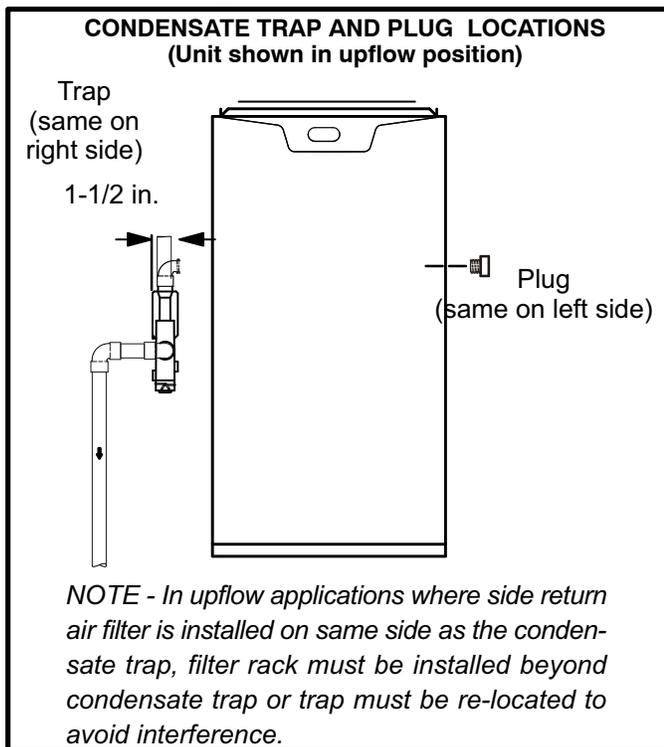
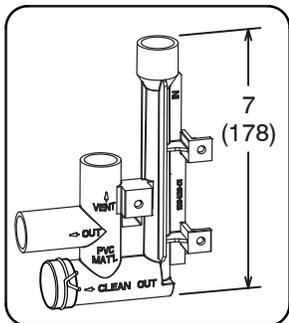

FIGURE 43
FIGURE 51
This unit is designed for either right- or left-side exit of condensate piping in upflow applications. In horizontal applications, the condensate trap must extend below the unit. An 8" service clearance is required for the condensate trap. Refer to figures 43 and 45 for condensate trap locations. Figures 51 (3/4" drain connection) and NO TAG (1/2" drain connection) show trap assembly using 1/2" PVC or 3/4" PVC.
- 2 - For furnaces with a 1/2" drain connection use a 3/8 allen wrench and remove plug (figure 43) from the cold end header box at the appropriate location on the side of the unit. Install field-provided 1/2 NPT male fitting into cold end header box. For furnaces with a 3/4"
- 3 - Install the cap over the clean out opening at the base of the trap. Secure with clamp. See figure 51 or NO TAG.
- 4 - Install drain trap using appropriate PVC fittings, glue all joints. Glue the provided drain trap as shown in figure 51 or NO TAG. Route the condensate line to an open drain. Condensate line must maintain a 1/4" downward slope from the furnace to the drain.